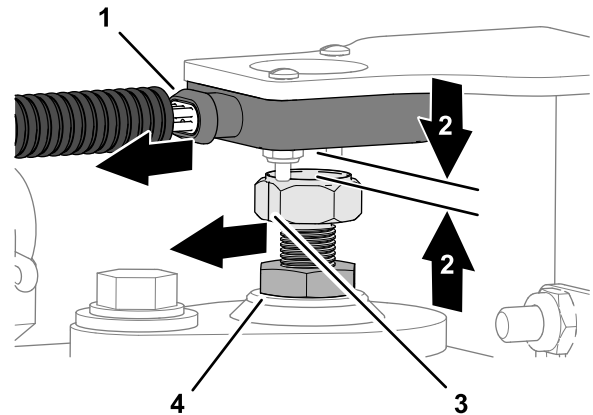

Figure 22
1. Adjust the position of the magnetic target until you measure a gap 4 mm (0.16 inch) between the target and the face of sensor (Figure 22).
2. Rotate the magnetic target until the indicator line that is stamped into the flat of the magnetic target aligns with the wiring port of the sensor (Figure 22).
3. Tighten the jam nut (Figure 22).
4. Measure the gap between the target and the face of sensor (Figure 22). You should measure 2 to 4 mm (0.08 to 0.16 inch).